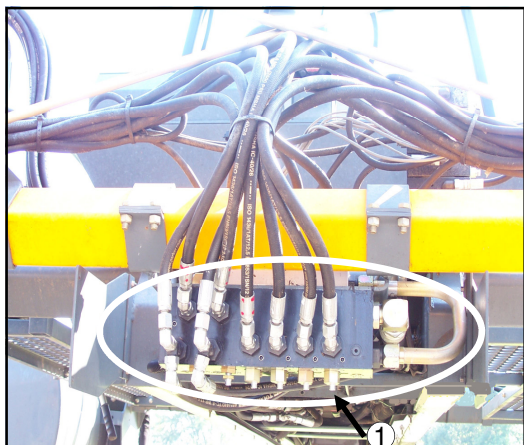
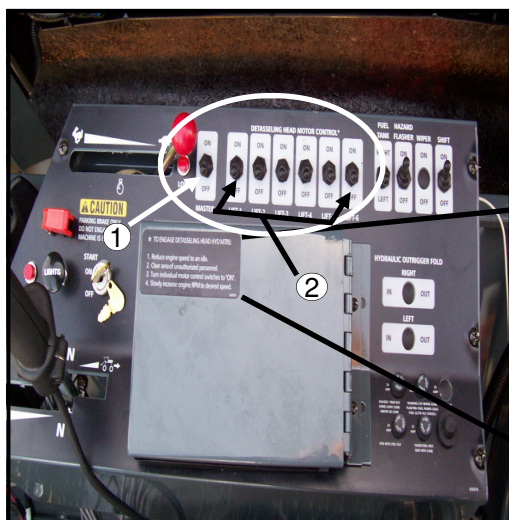
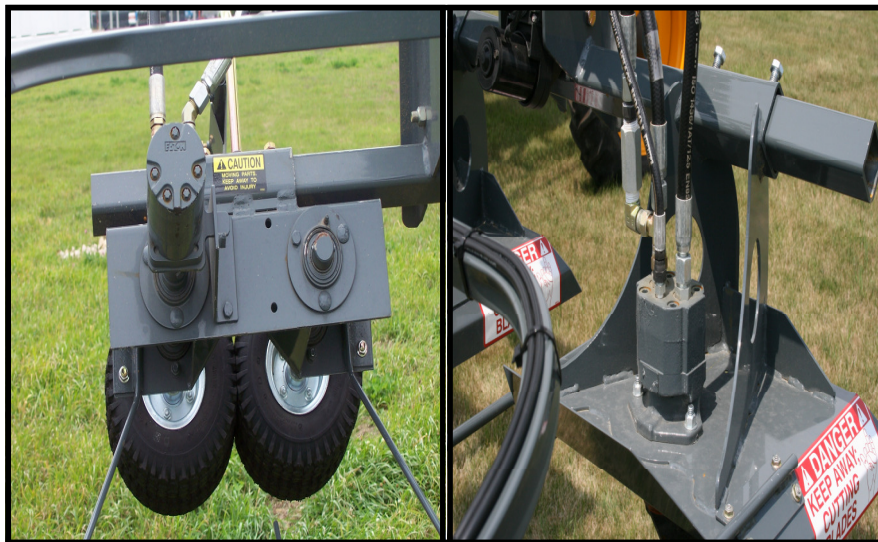

FIG 5.28
FIG 5.29
FIG 5.30
The hydraulic motors on the detasseling heads (fig. 5.30) are controlled by the master switch (fig. 5.29, item 1) and individually (per lifts) turned on and off with a row of switches mounted on the control panel to the right of the operator's seat (fig. 5.29, item 2). To open the solenoid of any of the motor control valves (fig. 5.28) which activate the hydraulic motors, flip the corresponding switch(es) away from the operator. To shut any or all motors off, flip the corresponding switch(es) toward the operator.
Each set of motors are controlled with an adjustable needle valve (fig. 5.28, item 1) that restricts hydraulic flow to the hydraulic motors so they don't over-speed and become damaged.